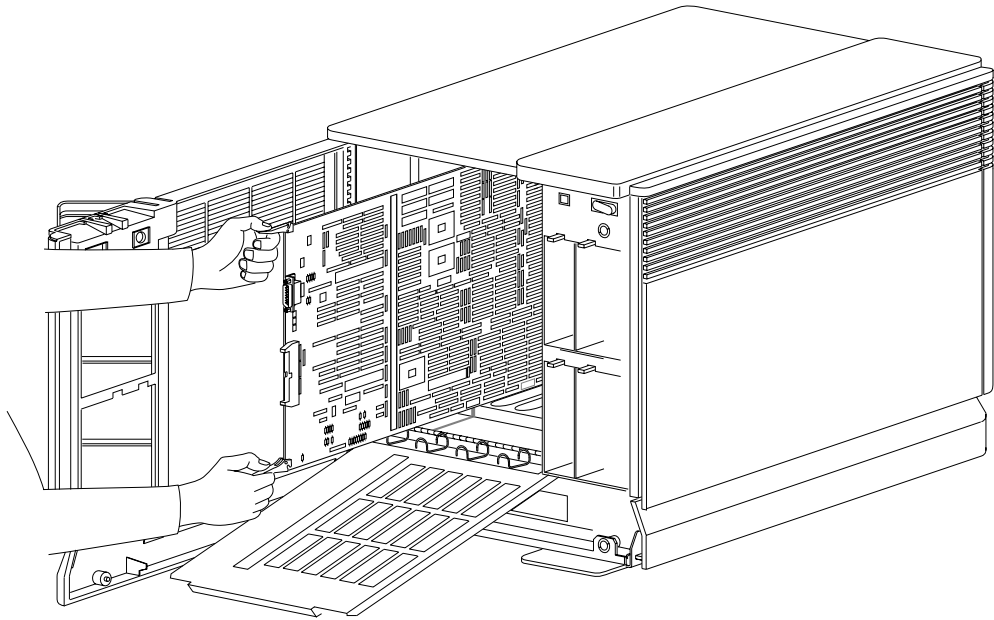

Figure 3-6 Removing a Board from a Single Tower Chassis
5. Use the board ejector tabs to remove the IP17 board from the chassis (Figure 3-6); place it on an antistatic mat.